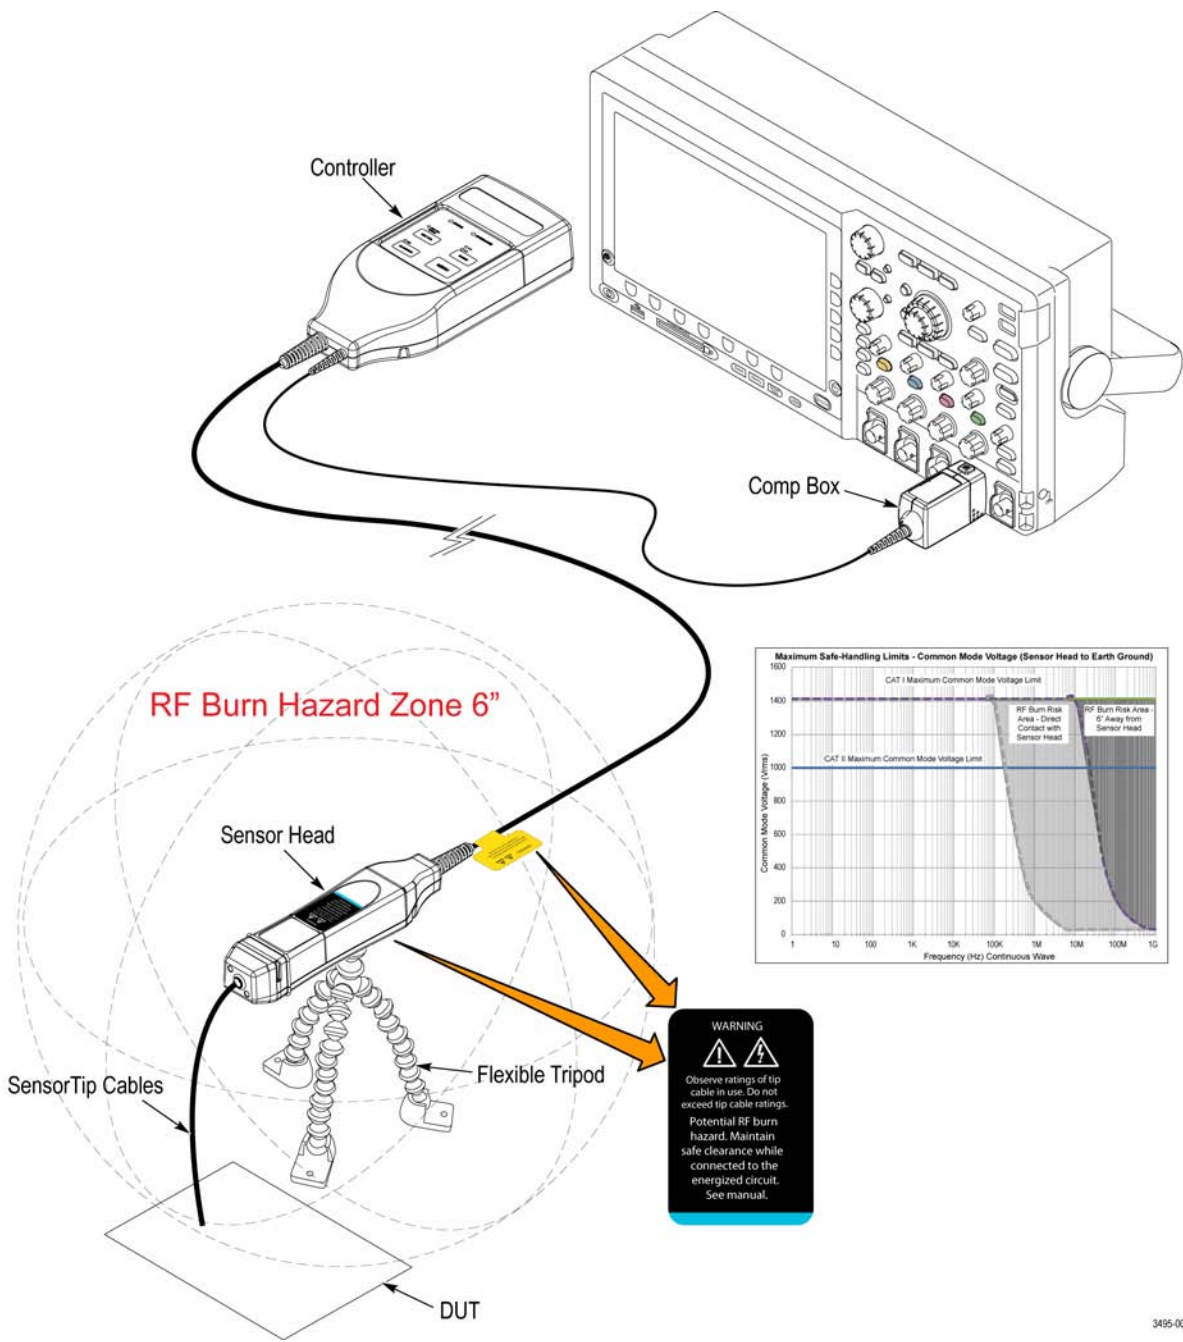

Figure 2: RF burn hazard zone around the sensor head
**WARNING.** *To avoid the risk of electrical shock or RF burns while the DUT is energized, do not touch the sensor head or sensor tip cable while taking measurements. Always keep a six (6) inch (15.25 cm) clearance from the sensor head during the measurement. (See Figure 2 on page 6.)*